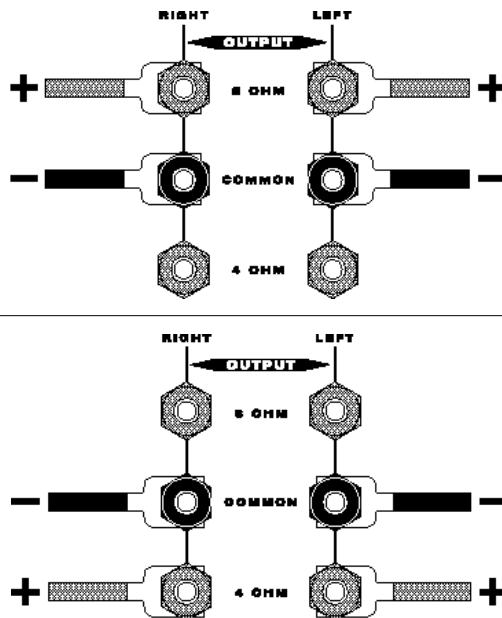

FIGURE 2
Plug the Detachable Power Cord into this socket (see Figure 2). The Amp 1 is factory set for the correct operating voltage for the area in which it is sold (see shipping box for voltage setting). If a different operating voltage is required, please contact an authorized Sonic Frontiers or Anthem dealer, distributor or the factory directly.
Refer to Figure 2 for further instruction.
3. Noting the location of the tube sockets in the top view photo, inspect the tubes for corresponding labels and markings. Once locations are mapped, take a tube and inspect the pins, noting the larger space between two of the pins (see Figure 2). This space will match with the socket. Insert each tube into the appropriate tube socket, making sure all pins and pin holes are aligned. Do not force the tubes into the sockets. "Rock" the tubes gently while pushing slowly until each tube is firmly seated.